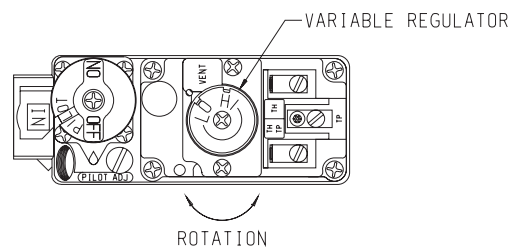

Figure 14
## Initial Lighting (Figure 14)
**NOTE:** The gas control valve allows you to increase or decrease the height of the main burner flame. The control valve has a pressure regulator with a knob as shown in Figure 14. Rotate the knob clockwise to "HI" to increase the flame height and counterclockwise to "LO" to decrease the flame height.